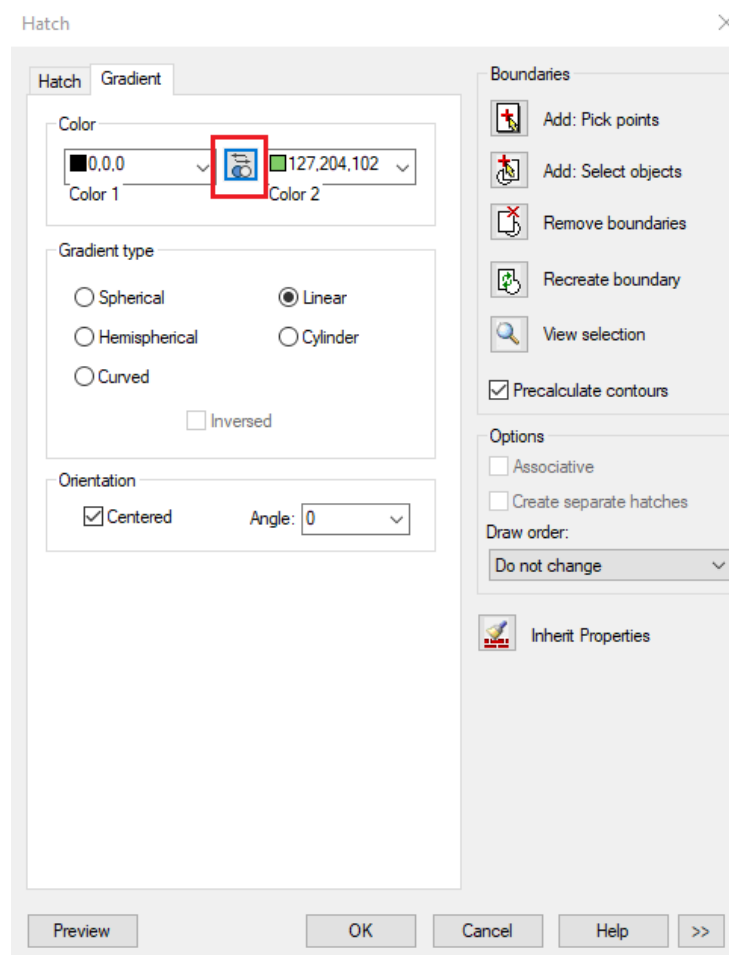

Fig. 24. Swap colors in the gradient
2.8. Edit these gradients. Double click on one of them, then swap two colors in the **Gradient** tab of the **Hatch** dialog box (fig. 24):